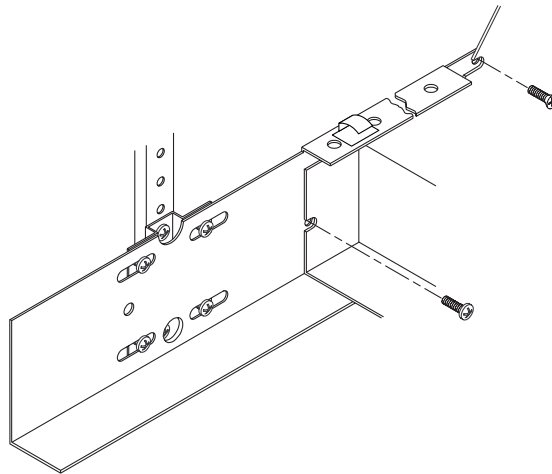

FIGURE 2-8 Tightening the Securing Screws
Do not tighten the securing screws (FIGURE 2-8 on page 2-12).
- 4. Tighten the two securing screws in each mounting rail. (FIGURE 2-8).**